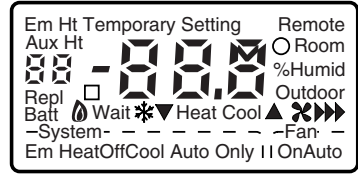

Fig. 4. Display of all LCD segments.
- To enter the Installer Setup mode, press and hold the Information **i** key with the increase **▲** and decrease **▼** keys until the first mode number is displayed. All display segments appear for approximately three seconds before the first mode number is displayed. See Fig. 4 and 5.